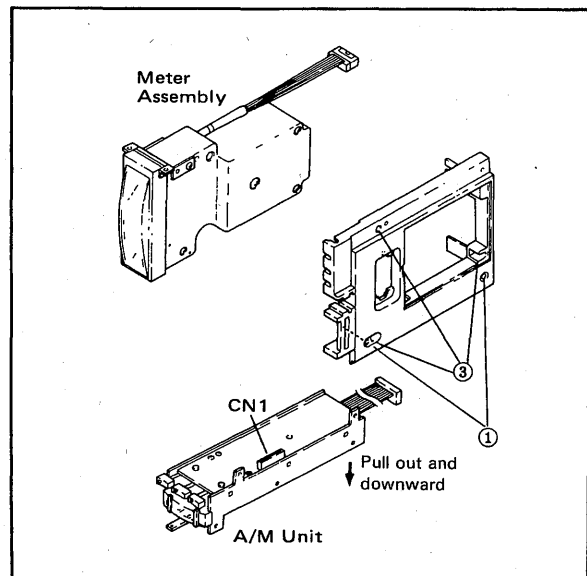
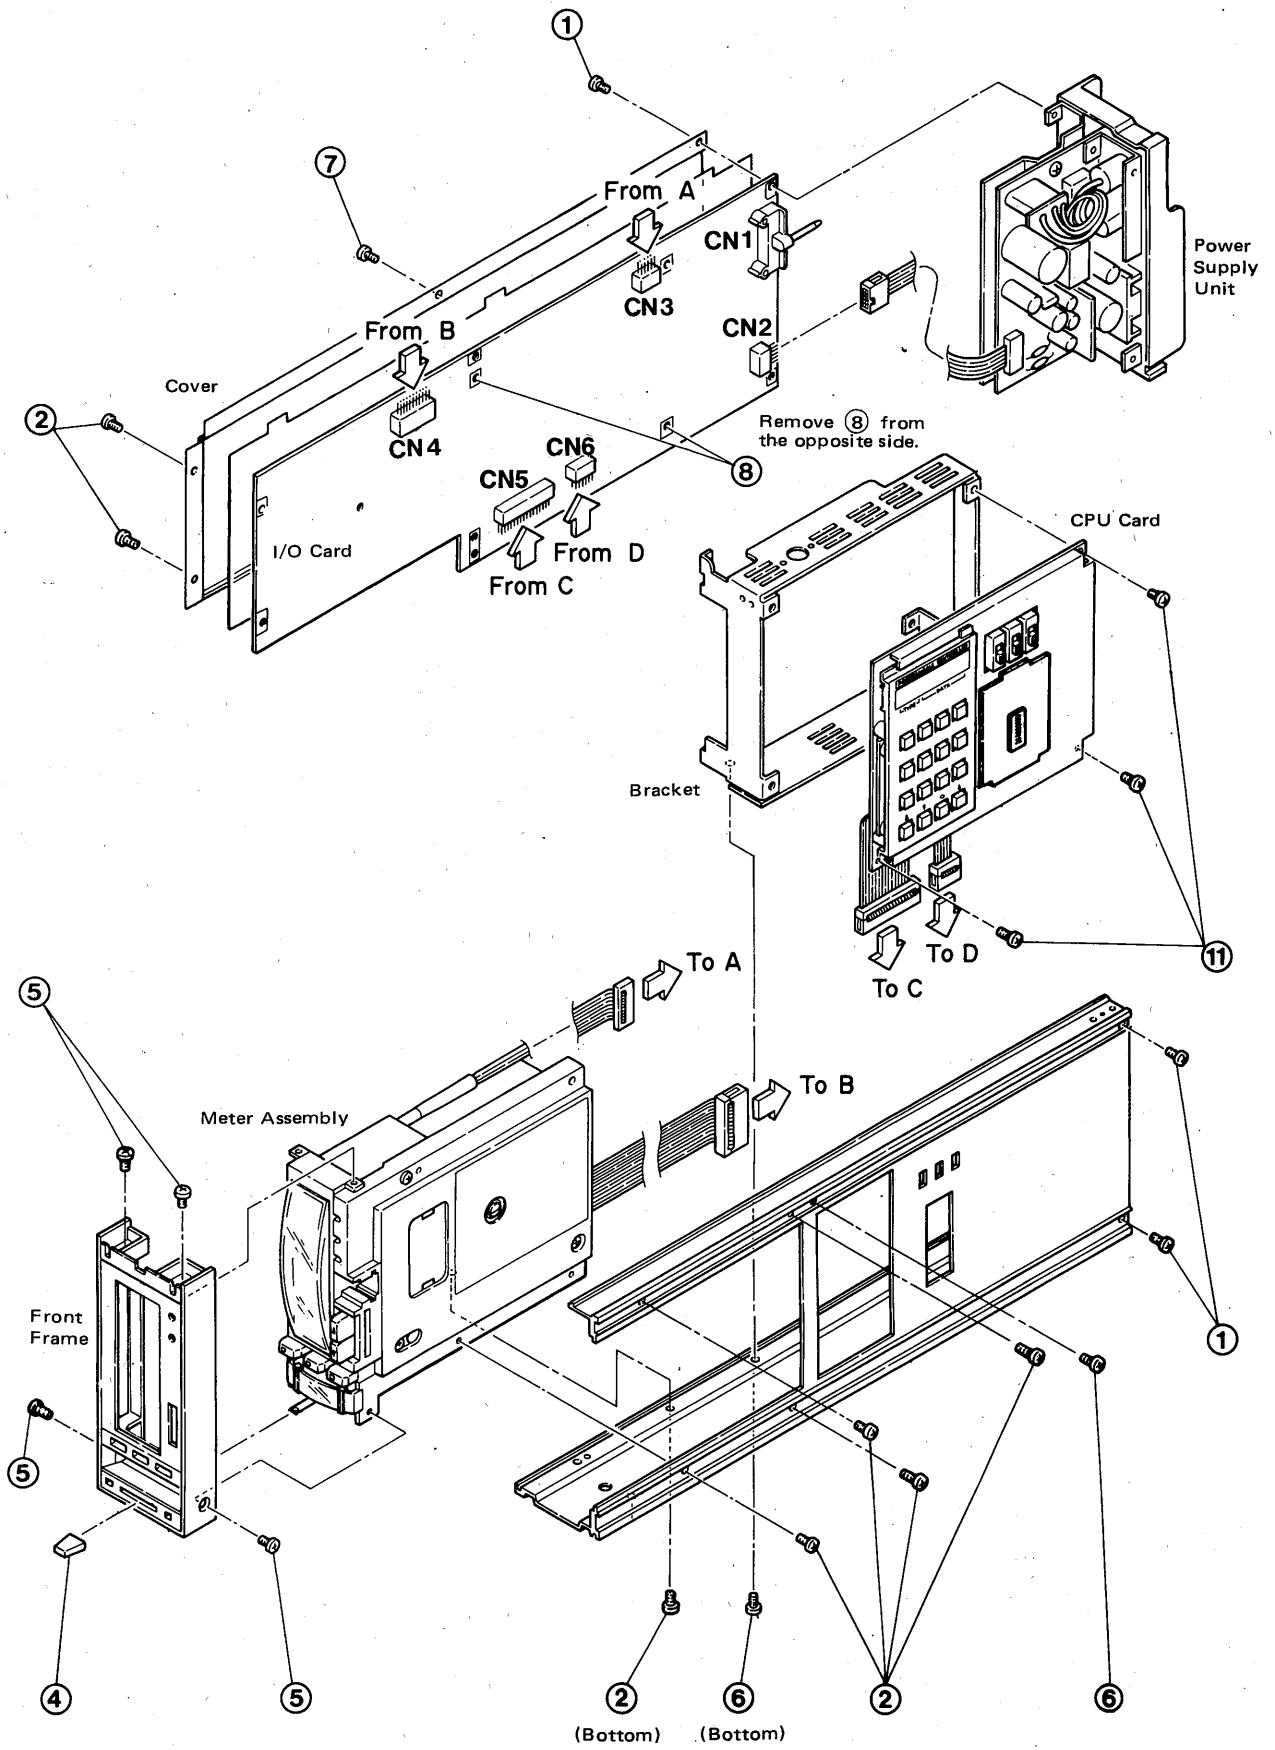

Figure 7-2. Disassembling the Display Unit.
Figure 7-3. Disassembling Main Assembly.
- (1) Remove seven screws ② in Figure 7-3.
- (2) Pull the connectors CN3 and CN4 up to disconnect them from the main card.
- (3) Carefully pull the meter assembly out toward the front.
- (1) Pull off the manual operation lever knob ④ in Figure 7-3.
- (2) Remove four screws ⑤ to separate the front frame.
- (3) Pull the A/M unit out and downward by removing two screws ① in Figure 7-2.
- (4) To separate the meter assembly, remove three screws ③ from the molded part. (The meter assembly in the fluorescent bar graph version can be separated in the same manner.)
- (1) Remove four screws ① in Figure 7-3.
- (2) To remove the power supply unit, pull it out toward the rear and detach connector CN2.
- (1) Remove the meter assembly and the power supply unit as instructed in Sections 7-2-1 and 7-2-3.
- (2) Separate the control assembly from the chassis by removing two screws ⑥ in Figure 7-3.
- (3) Remove two screws ⑦ and open the cover to access screw ⑧.
- (4) Remove two screws ⑧ and pull connectors CN5 and CN6 down to separate the I/O card from the CPU card.
- (5) Remove three screws ⑩. Remove the CPU card from the bracket.